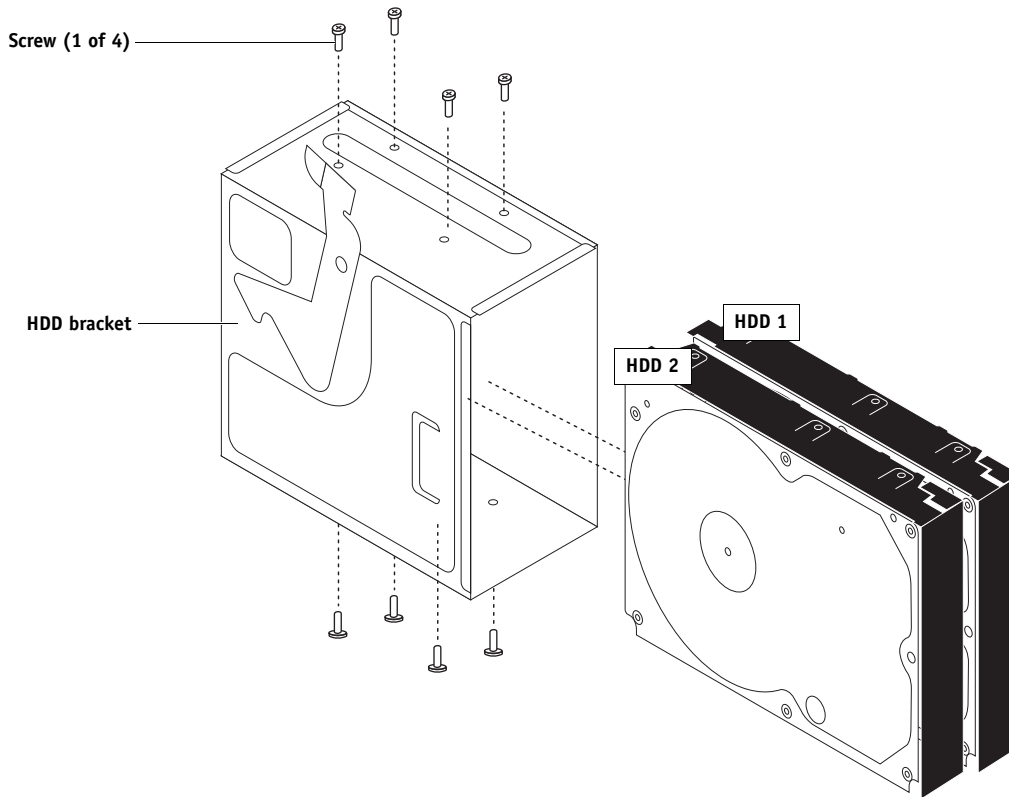

FIGURE 35: Removing/replacing the HDDs from the HDD bracket
7. Remove the screws that attach the HDDs to the HDD bracket (see Figure 35).
2. Position the HDD inside the HDD bracket and align the front-most mounting holes on the HDD with the four holes in the bracket (see Figure 35 on page 94).